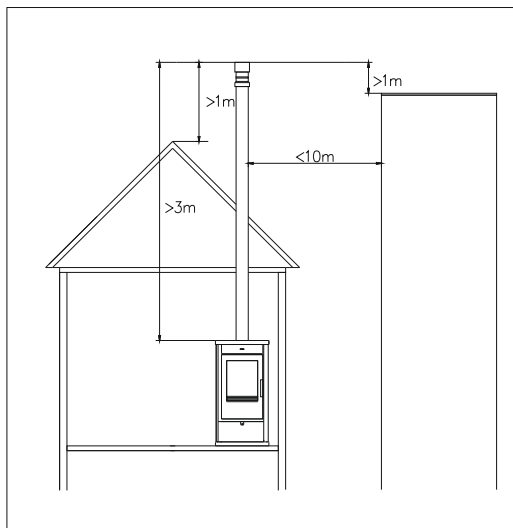

Figure 4
- The chimney should be high enough, compared with the roof and nearby buildings (Figure. 4). The flue draught should be higher than 10 Pa, and for stoves with integral water boiler up to 15 Pa. If the chimney is very high (the draught exceeding 35 Pa) then it is necessary to install a supplementary valve to reduce the draught.